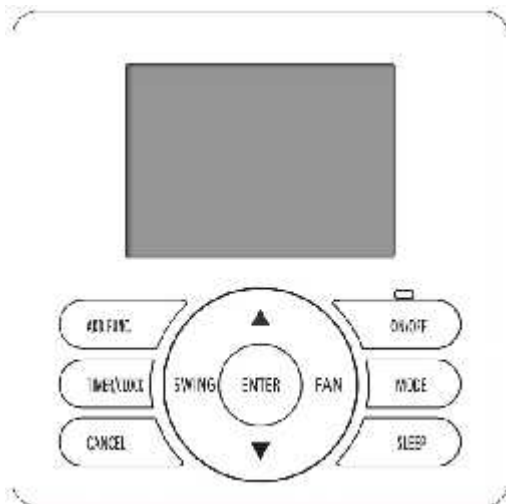
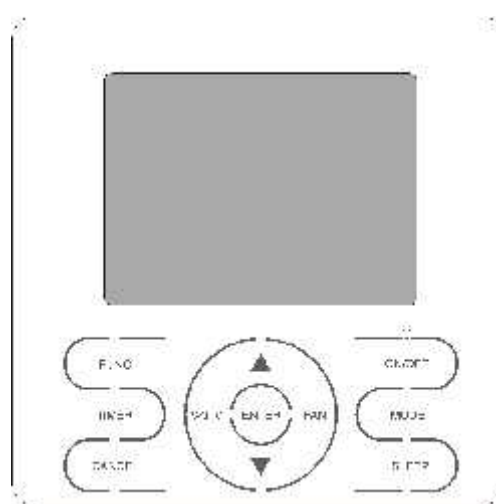

Fig.2 YXE-C01U/ YXE-C02U(E)
Fig.3 YXE-D01U(E)
Fig.2 short wiring
Fig.3 output line
Pins of the OUT INPUT CN16 socket shown in the electrical wiring diagram of Fig 1 are tacitly approved to be in short circuit state under the factory state (an external short circuit plug shown as Figure 2).
- 1) When using the room card control, the user cuts off the short wire shown in Figure 2 and connects the red lines to the control switch (supplied by user), and the connecting wire should be 22AWG or above specification. The switch is closed under normal conditions and off under abnormal conditions.
- 2) When using the fire protection , the user cuts off the short wire shown in Figure 2 and connects the White lines to the control switch (supplied by user), and the connecting wire should be 22AWG or above specification. The switch is closed under normal conditions and off under abnormal conditions.
- 3) When using the ON/OFF function, the user cuts off the short wire shown in Figure 2 and connects the White lines the ON/OFF control switch (supplied by user), and the connecting wire should be 22AWG or above specification. In normal conditions, the machine starts once the switch is closed and the machine shuts down once the switch is off.
Fig.2 short wiring (old)
Fig.3 main control board
Fig.2 short wiring (new)
3 pins of the OUT INPUT CN16 socket shown in the electrical wiring diagram of Figure 1 are tacitly approved to be in short circuit state under the factory state (an external short circuit plug shown as Figure 2), and the OUT INPUT CN16 socket of main control board is shown as Figure 3.
- 4) When using the room card control or fire protection , the user cuts off the short wire shown in Figure 2 and connects the red line and the black line to the control switch (supplied by user), and the connecting wire should be 22AWG or above specification. The switch is closed under normal conditions and off under abnormal conditions.
- 5) When using the ON/OFF function, the user cuts off the short wire shown in Figure 2 and connects the black line and the white line to the ON/OFF control switch (supplied by user), and the connecting wire should be 22AWG or above specification. In normal conditions, the machine starts once the switch is closed and the machine shuts